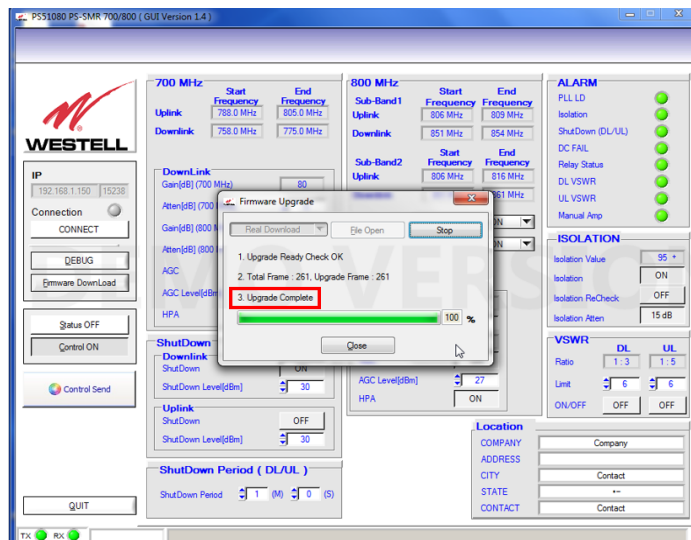

Figure 7-10: Upgrade Complete
8. When **Step 3: Upgrade Complete** displays in the Firmware Version Check window, Figure 7-10, the upgrade is complete.